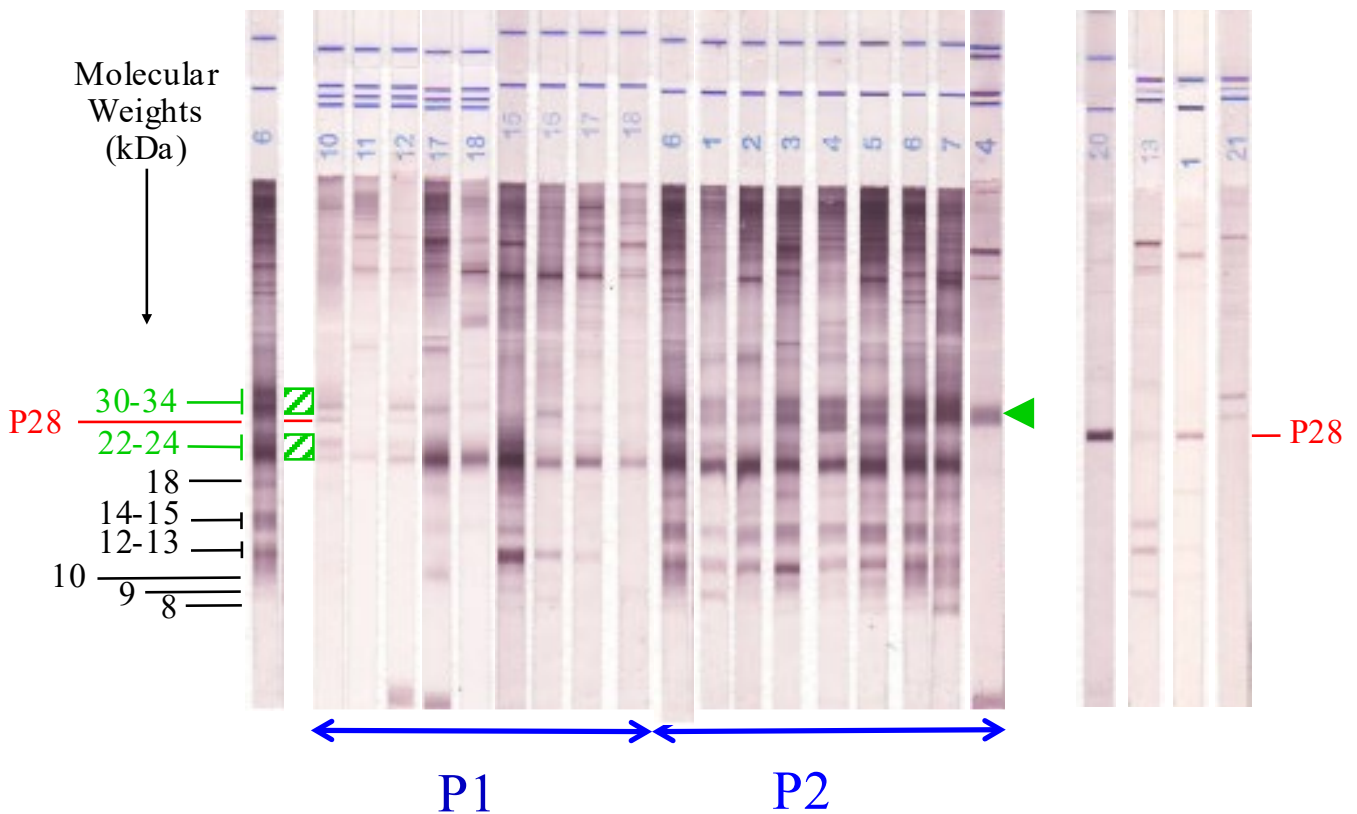

Fig. 1: Examples of positive and negative results
8 bands are most often present: P8, P9, P10, P12-13, P14-15, P18, P22-24 and P30-34 at the corresponding molecular weights (see photograph on **Fig. 1**).
- The bands that are most often found are indicated on the “C+” strip to the left of the figure 1. Numerous other bands can be present in the 8-22 kDa area.
- The strip 13, 1 and 21 “cross-reactions” sera presented to the right of Fig. 1 correspond to cases of malaria. They were specially selected among the rare sera that, during the evaluation, presented non-specific bands in the 8-34 kDa reading area.